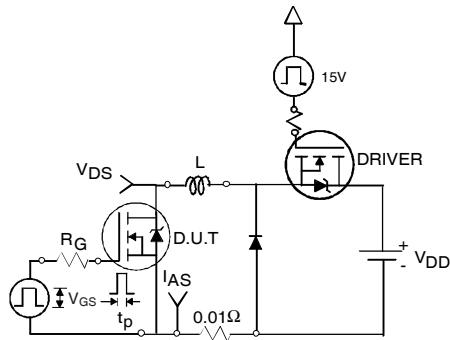

Fig 12a. Unclamped Inductive Test Circuit
- ③ $I_{SD} \leq 48\text{A}$, $dI/dt \leq 330\text{A}/\mu\text{s}$, $V_{\text{DD}} \leq V_{(\text{BR})\text{DSS}}$, $T_J \leq 175^\circ\text{C}$
- ④ Pulse width $\leq 400\mu\text{s}$; duty cycle $\leq 2\%$.
- ⑤ $C_{\text{oss eff.}}$ is a fixed capacitance that gives the same charging time as C_{oss} while V_{DS} is rising from 0 to 80% V_{DSS} .
- ⑥ Limited by $T_{J\text{max}}$, see Fig.12a, 12b, 15, 16 for typical repetitive avalanche performance.
- ⑦ This value determined from sample failure population. 100% tested to this value in production.
3. Equation below based on circuit and waveforms shown in Figures 12a, 12b.